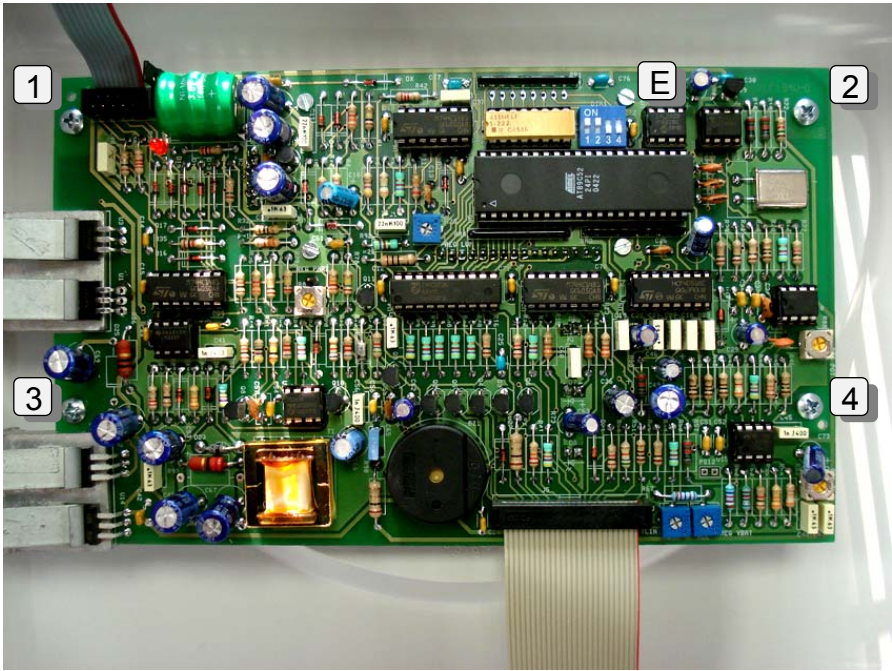

Figure 13
Undo screws **1**, **2**, **3** and **4** (Figure 13) and carefully lift the CPU board; use caution because the connector that links the board to the front panel buttons is located under the board (Figure 14).
N.B.: if the CPU board must be changed, you must remove integrated circuit **E** (Figure 13) from the faulty board and fit it on the new board, using the maximum caution in relation to the integrated circuit pins and the direction of installation.